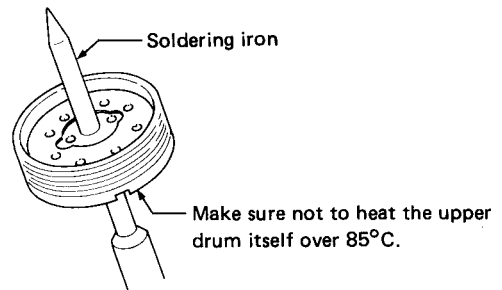

Fig. 2-4-3 Upper drum
4. Before installing a new upper drum, insert a soldering iron (50 W) into the hole of the upper drum and heat it for 3–5 minutes to expand the upper drum. (See Fig. 2-4-3.)